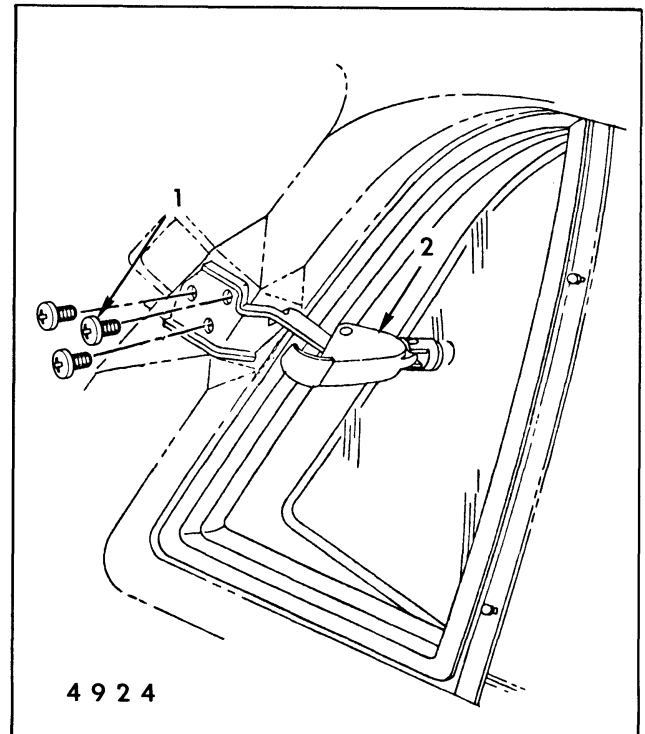

Fig. 6-38-Quarter Vent Window - "A" Station Wagons
1. Loosen and remove trim as required to remove three screws securing latch assembly to body (Fig. 6-38).